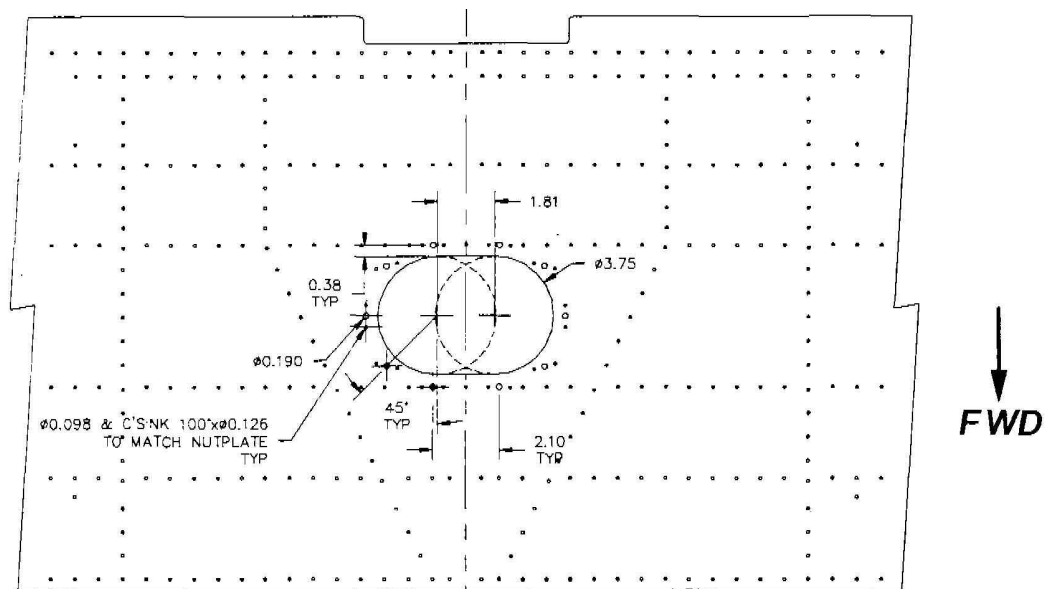

Figure 3 - Access hole
- (d) Cut an access hole as per the figure 3 below.